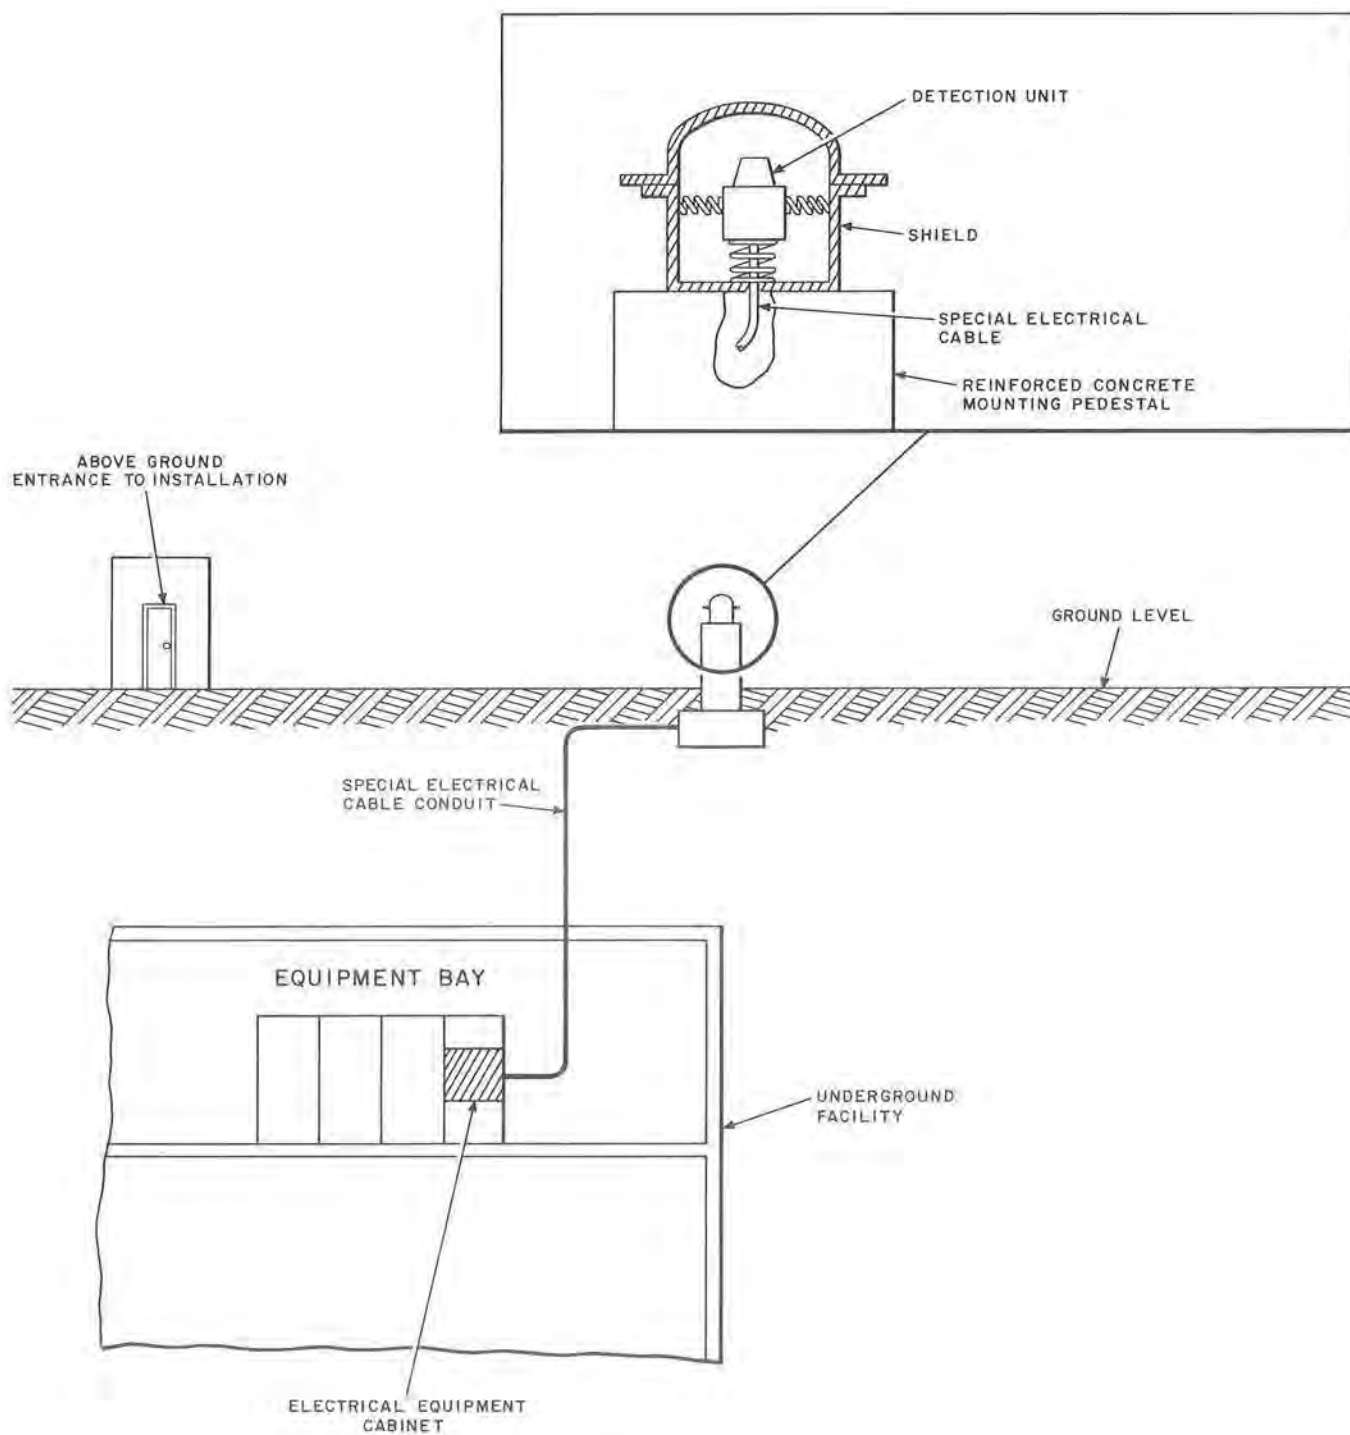

Fig. 4—Typical KS-19557 Detector Installation
2.05 The general location of the components of the KS-19557 detector is shown in Fig. 4